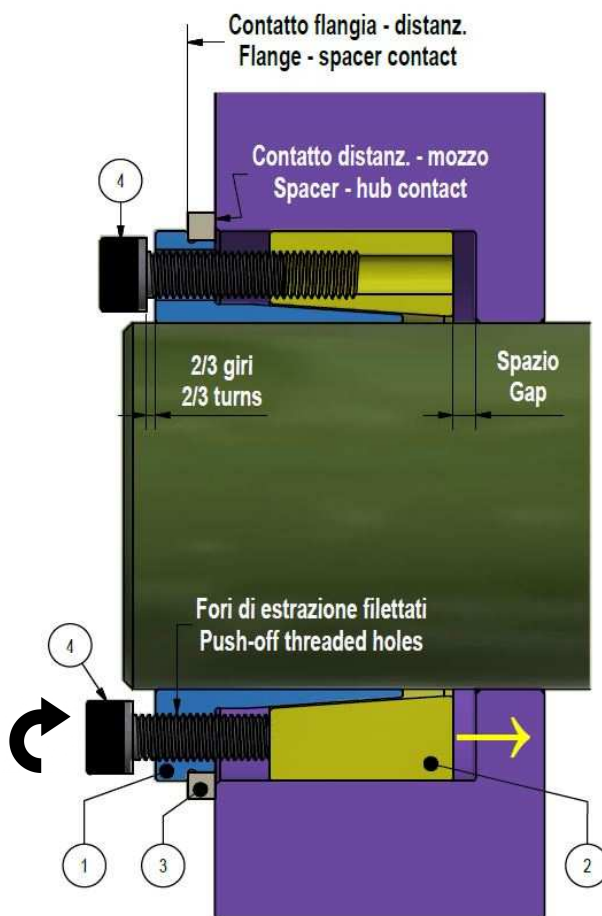

Fig. 2. Disengagement of locking rings and positioning of Locking Assembly.
2. **For ease of installation, locking rings shall be disengaged** (fig. 2). Loosen all screws by two/three turns; then transfer and hand-tighten at least two screws into the push-off threaded holes in the inner ring.
3. Insert Locking Assembly into the hub bore and make it slide onto the shaft, making sure that connected components are positioned as required. **Inner and outer rings shall be completely supported by shaft respectively hub bore** (fig. 2). **The spacer ring shall be in full contact with inner ring's flange and face of the hub** (fig. 2). At this point, relocate the screws used to disengage the locking rings. Installation into hubs with shoulder requires a few mm's gap between outer ring and shoulder (fig. 2).